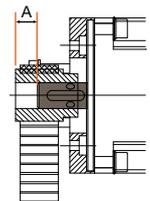

Figure 22: Depth gauge A
- ◆ Measure and note depth "A" from toothed pulley to motor / gearbox shaft before dismantling the toothed pulley (please refer to Figure 22).